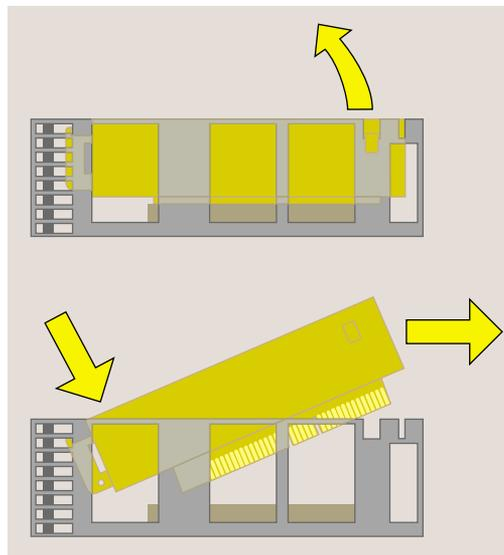

Figure 2-21 Removing the PCI Tray
3. Push down slightly on the rear of the PCI tray and remove it from the system module (Figure 2-21).